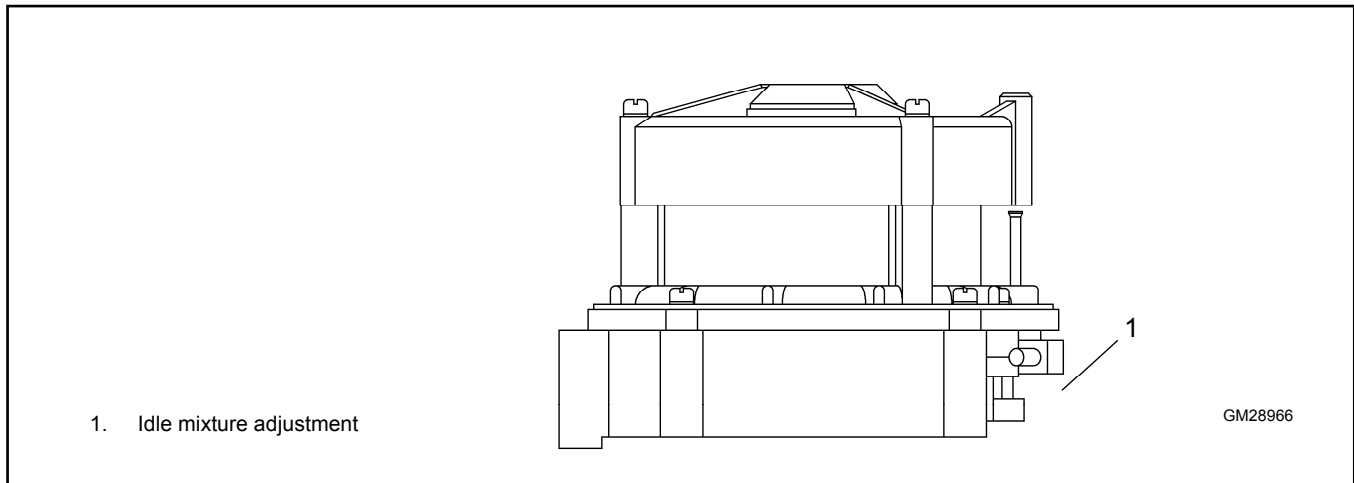

Figure 12 100/125 kW with Nolff 475 Style Fuel Mixer
Nolff N16-475-5A and N16-475-9A style fuel mixers used on 100 kW 8.1 L GM and 125 kW 8.1 L GM turbocharged engines. See Figure 12. This fuel mixer style does not have a fuel mixture adjustment.
7. Adjust the idle mixture adjustment (Figure 12) to obtain a no-load oxygen sensor reading within specifications.
8. Adjust the idle mixture adjustment (Figure 12) to obtain a no-load oxygen sensor reading within specifications. See Figure 2.